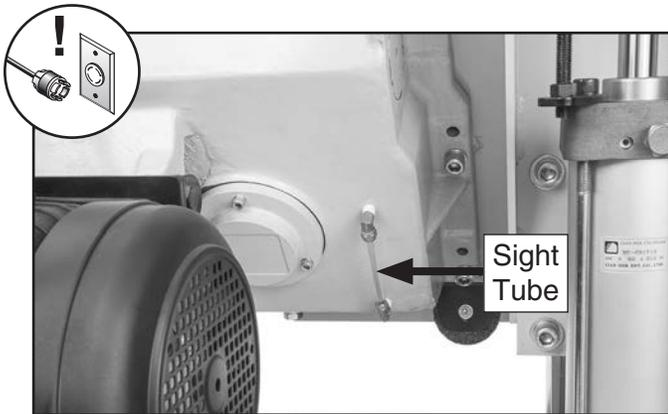
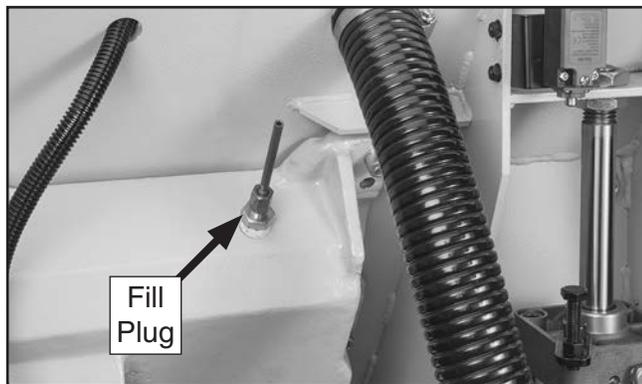

Figure 65. Gearbox sight tube location.
Figure 66. Gearbox fill plug location.
After the first 50 hours of use, the fluid level of the gearbox should be checked weekly. The gearbox has a sight tube (see **Figure 65**) to check fluid level. The sight tube should be filled with gear oil. If it's not, remove fill plug with breather tube (see **Figure 66**), and slowly add just enough gear oil to fill sight tube. When replacing fill plug, be sure to re-wrap threads with Teflon tape to prevent leaks.
4. Remove gearbox fill plug (see **Figure 66**).